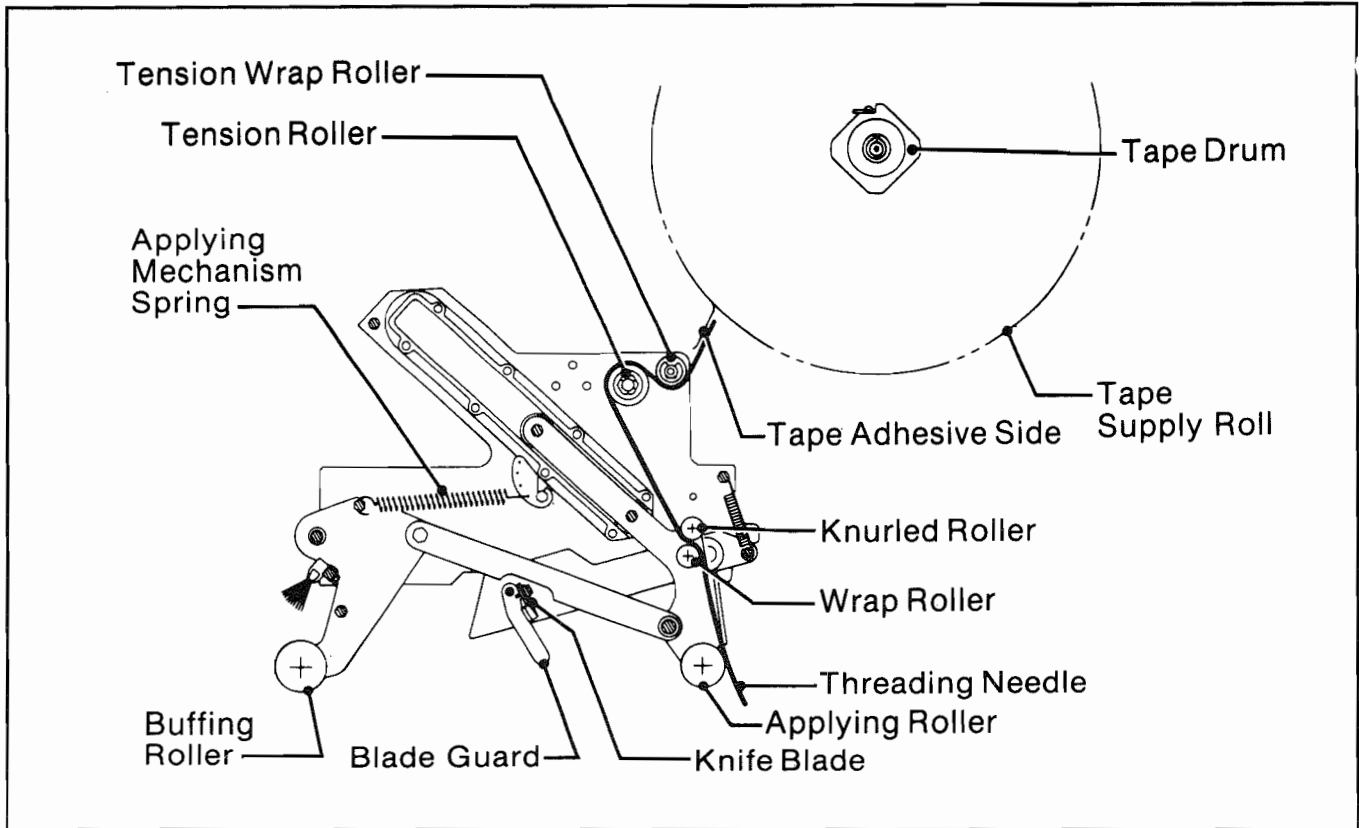
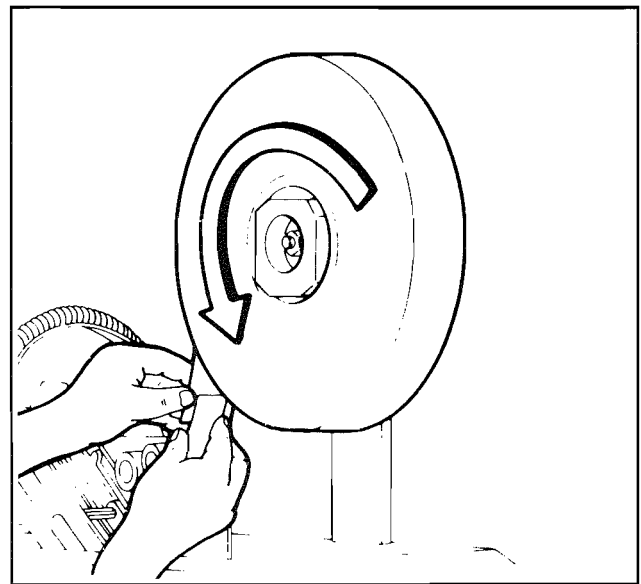

Figure 8 - Tape Threading Diagram - Top Taping Head - Left Side View
Figure 8C
2. With the temporary threading needle already in position, as shown in Figure 8, follow the tape loading procedure from Figure 8C to complete the tape threading.